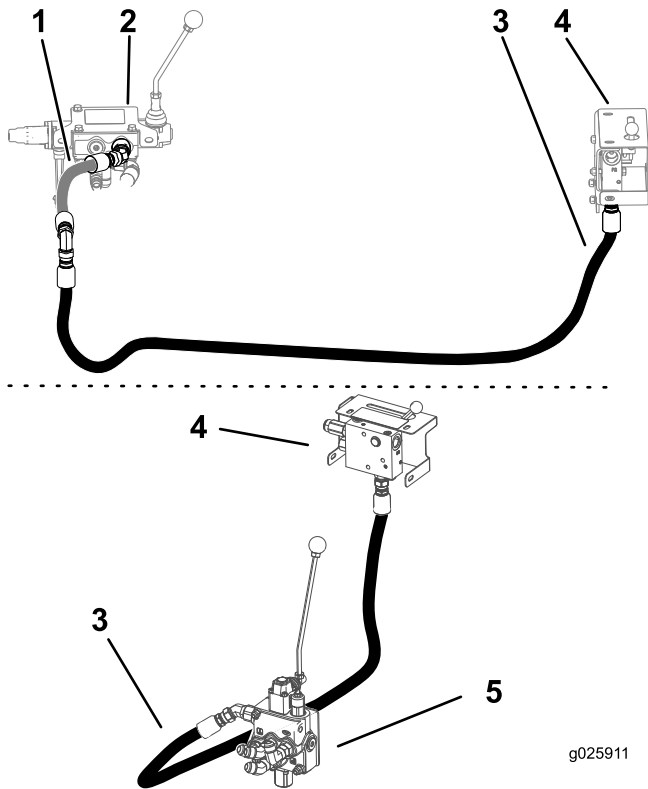

Figure 25
1. Remove the short hose coming from the trencher valve that is connected to the long hose leading to the plow-cylinder valve (Figure 25).
2. Connect the long hose coming from the plow-cylinder valve to the inside fitting on the hydra-borer valve as shown in Figure 25.